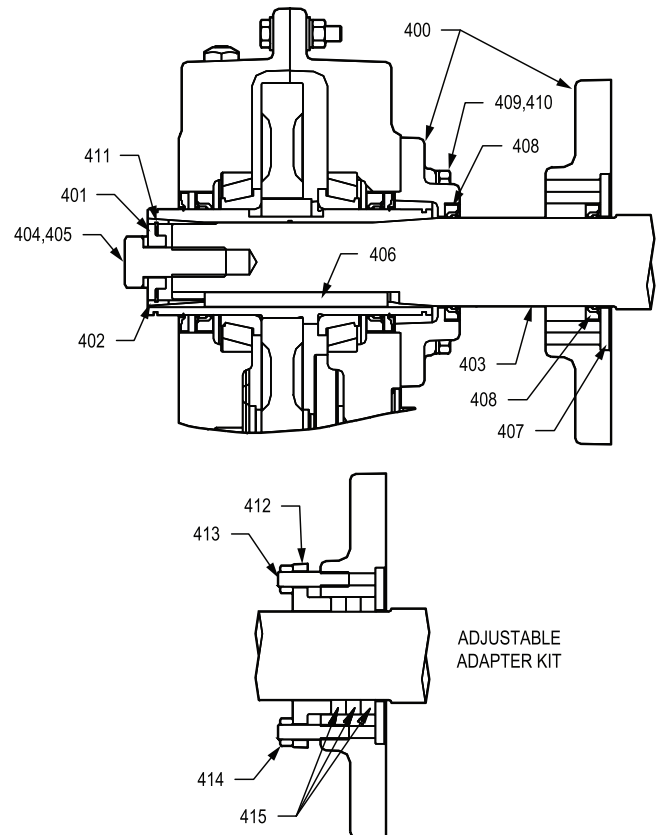

Figure 18 - Screw Conveyor Adapter Assembly
1. Install seals (408) into adapter housing as shown in Figure 18. If the optional packing adapter is to be used, install only one seal in the small end of the adapter. Use extreme care when installing seals to avoid damage to the seals. Press or tap seals into place by applying pressure only on the outer edge of the seal. Make sure seals are install evenly and are not tilted.
2. If using the optional packing adapter, install the two studs (413), retaining ring (412), and two nuts (414). Thread the nuts onto the studs about 4-5 threads. Install the three braided type seals (415) in a circular direction into the adapter cavity. Shoulder the braided seals against the adjustable retaining ring (412). To aid in installation of the driveshaft in step 7, the braided seals can be flattened out slightly with a soft hammer prior to installation. When installing the braided seals offset the joints from each other.
3. Lightly tap the large washer (407) into the counterbore on the large end of the adapter to seal the braided material installed in Step 2 or the seal installed in Step 1.
5. Position screw conveyor adapter (400) on the reducer output hub so that the small end (end with four drilled holes) rests on reducer. The approximate 1/8" piloting projection should locate in the output seal bore next to the auxiliary seal. Adapter projection should not touch the face of the gear case casting.
6. Place four adapter screws (409) and lock washers (410) through the adapter and thread into the reducer. Tighten the four cap screws (409) to the torque specified in Table 9.
8. Install the retaining ring (411) into the screw conveyor wedge (402). Making sure the drive shaft is fully seated into the reducer, slide the wedge onto drive shaft.
9. Install keeper plate (401), drive shaft cap screw (404), and lockwasher (405). Torque to specifications in Table 12.